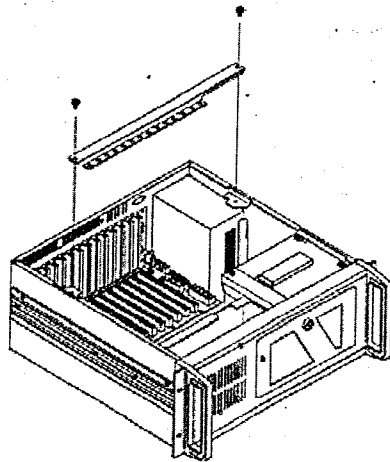

Figure 2.4-4: Detaching the hold-down clamp
1. Detach the hold-down clamp by removing the two screws located at each end and lifting it off the chassis. (See Figure 2.4-4)